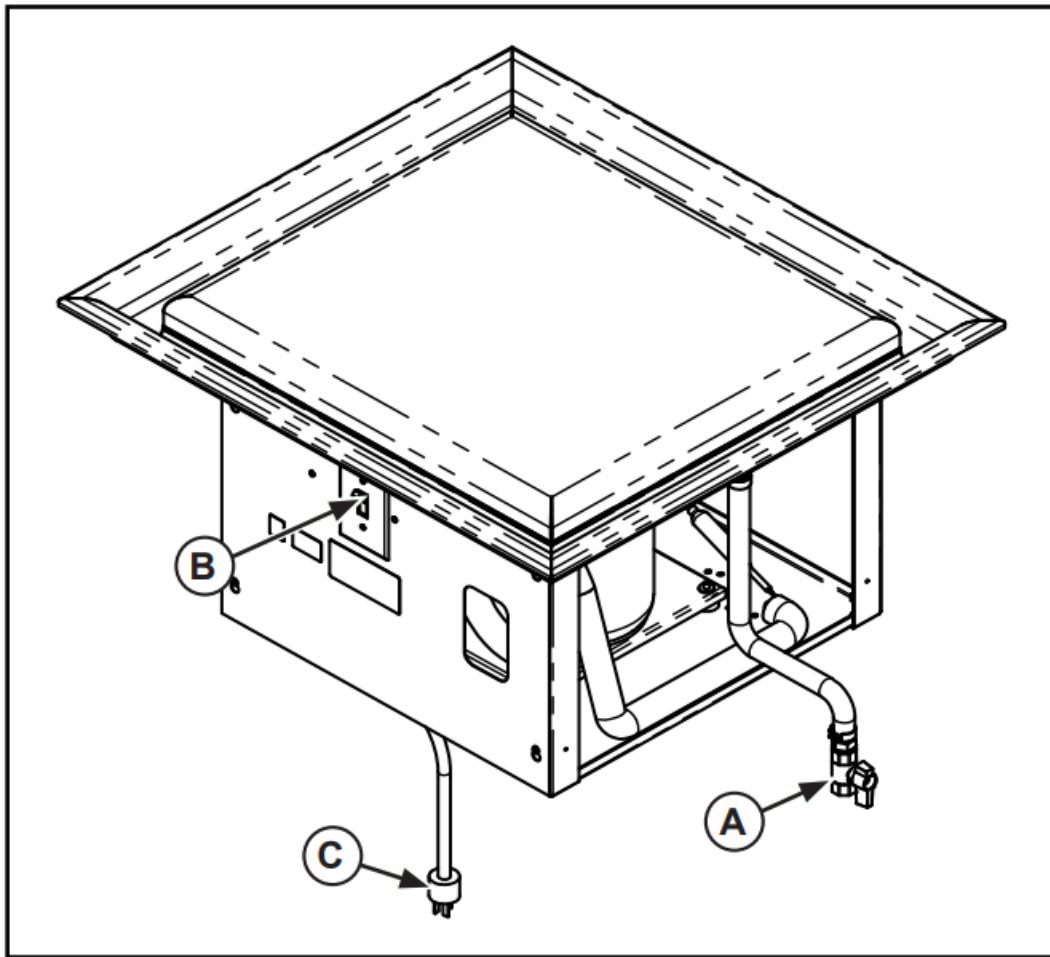

Figure 1. Features and Controls.
1. Check the drain valve (A) to verify it is in the CLOSED position to prevent water from draining out. See Figure 1. The valve is in the CLOSED position when the handle of the valve forms a “T” with the body of the valve.
3. Turn the power switch (B) to the “ON” position. This unit does not have an adjustable temperature setting. Allow the unit to run for approximately 30 minutes. For the best performance when using ice with this unit, allow unit to run for approximately 2 hours before adding ice. This will help the ice remain solid.